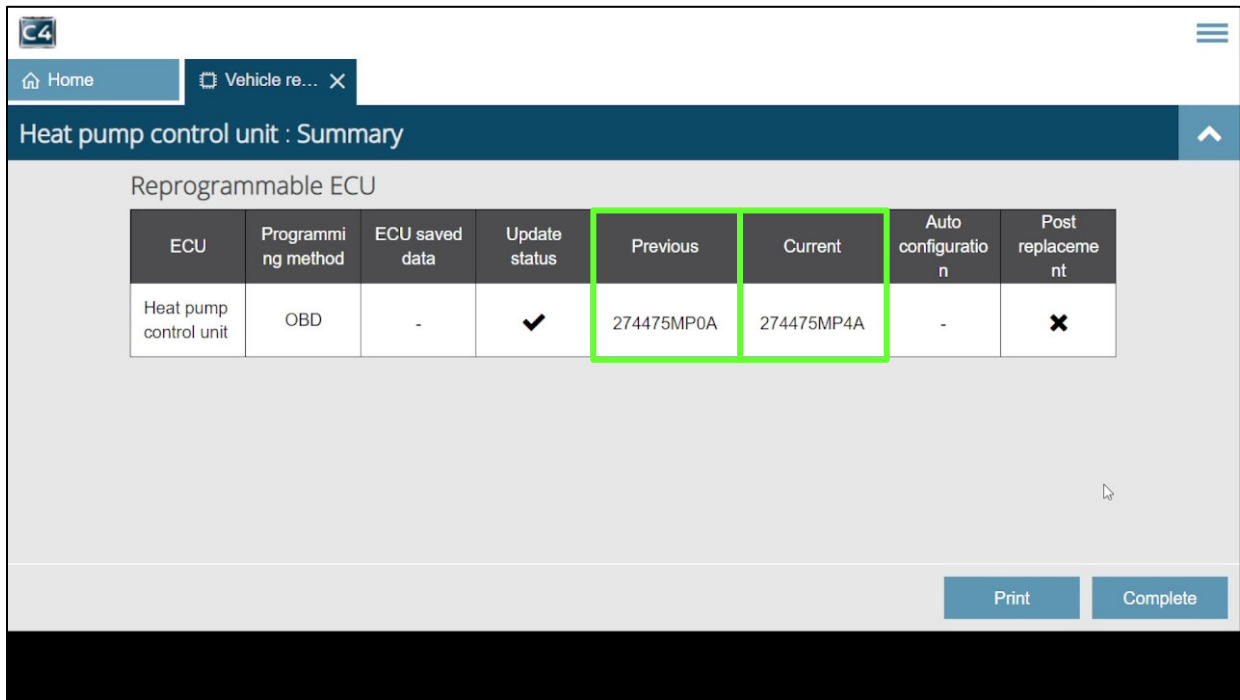

Figure 4
- Confirm the **Previous** and **Current** Heat pump control unit part numbers are different after reprogramming, as shown in Figure 4.